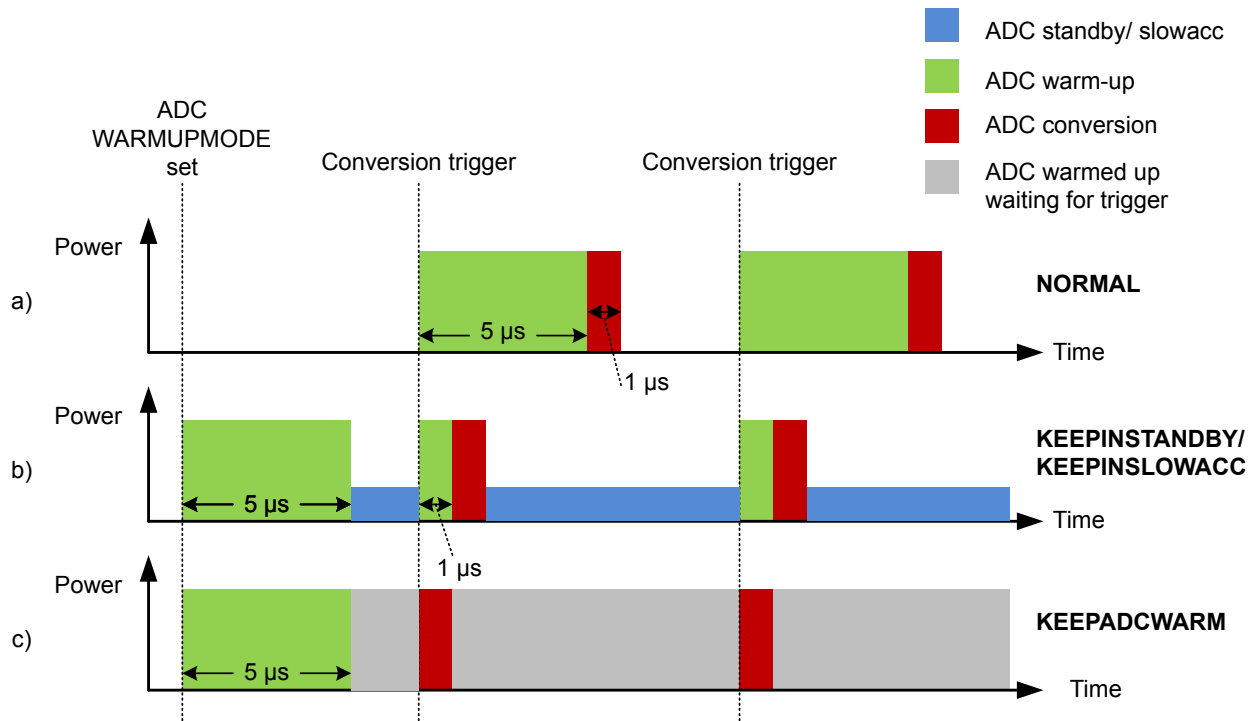

Figure 25.4. ADC Analog Power Consumption With Different WARMUPMODE Settings
Normally, the ADC will be warmed up only when samples are requested and is shut off when there are no more samples waiting. However, if lower latency is needed, configuring the WARMUPMODE field in ADCn_CTRL allows the ADC and/or reference to stay warm between samples, reducing the warm-up time or eliminating it altogether. Figure 25.4 ADC Analog Power Consumption With Different WARMUPMODE Settings on page 838 shows the effects on analog power consumption in scenarios using different WARMUPMODE settings.
- **NORMAL:** This is the lowest power option for general-purpose use and low sampling rates (below 35 ksps). The ADC and references are shut off when there are no samples waiting. The ADC does not consume any power when it is shut down. A 5 μ s warmup time will be initiated prior to every conversion. Figure a in Figure 25.4 ADC Analog Power Consumption With Different WARMUPMODE Settings on page 838 shows this mode.
- **KEEPINSTANDBY:** This mode is suitable for infrequent sampling of lower impedance inputs, and is the lowest power option for sampling rates between about 35 and 125 ksps. It may also be useful for lower sampling rates where latency is important. The reference selected for scan mode is kept warm, but the ADC is powered down. The ADC will initiate a 1 μ s warmup period before a conversion begins. Because the reference is kept warm, the ADC will consume a small amount of standby current when it is not converting. Figure b in Figure 25.4 ADC Analog Power Consumption With Different WARMUPMODE Settings on page 838 shows this mode.
- **KEEPADCWARM:** This mode provides the lowest latency and allows for maximum sampling rates. The ADC and reference circuitry remain powered on even when conversions are not in progress. Figure c in Figure 25.4 ADC Analog Power Consumption With Different WARMUPMODE Settings on page 838 shows this mode. This mode consumes the most power, but as soon as a trigger event occurs, the acquisition and conversion begin with no warm-up time.